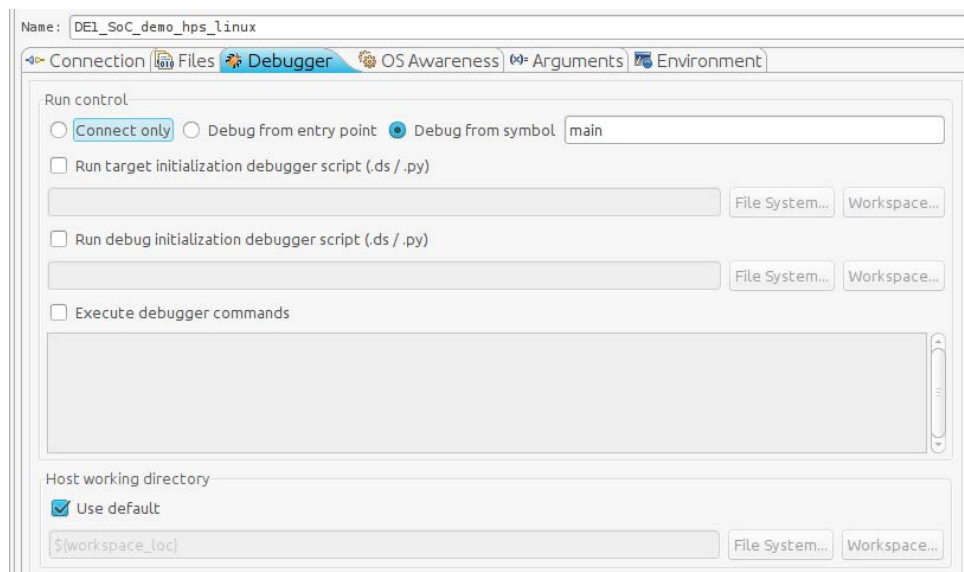

Figure 13-16. Debug Configuration "Debugger" Tab
84. Under the "Debugger" tab, make sure that "Debug from symbol" is selected and that "main" is the name of the symbol, as shown in Figure 13-16.